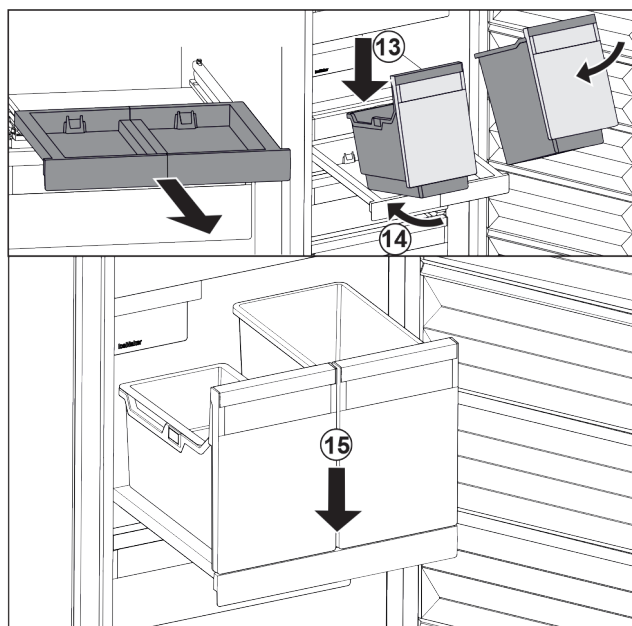

Fig. 197
- Place the container at an angle on the pull-out board. Fig. 197 (13)
- Slide the container to the back at an angle. Fig. 197 (14)
- Place container in the front. Fig. 197 (15)